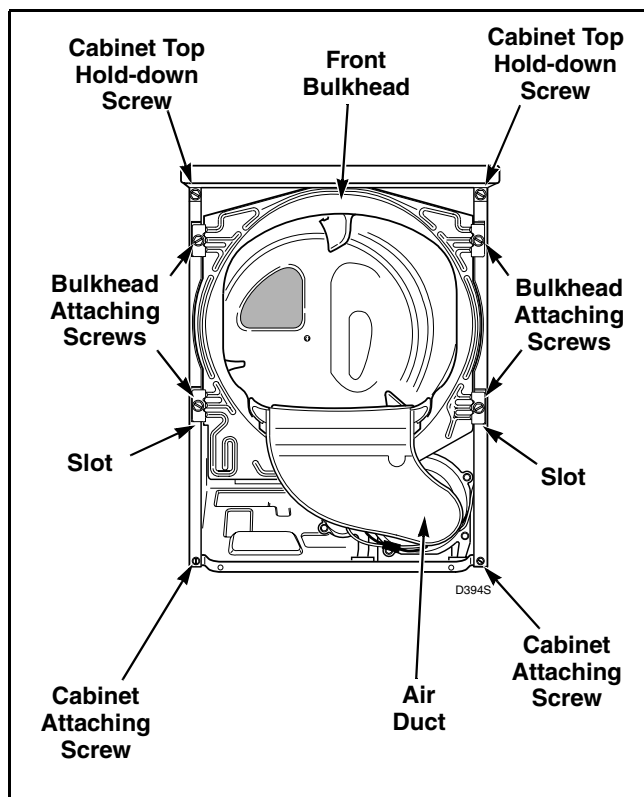

Figure 48
- Remove four screws holding bulkhead to front flange of cabinet and lift complete bulkhead assembly out of slots in cabinet. Refer to *Figure 48*.
- f. Remove four screws holding bulkhead to front flange of cabinet. Then, lift complete bulkhead assembly out of slots in cabinet. Refer to *Figure 48*.
- f. Remove four screws holding bulkhead to front flange of cabinet. Then lift complete bulkhead assembly out of slots in cabinet. Refer to *Figure 48*.
- g. Remove two cabinet top hold-down screws. Refer to *Figure 48*.
- e. Remove two cabinet top hold-down screws. Refer to *Figure 48*.
- h. Remove four screws holding bulkhead to front flange of cabinet. Then, lift complete bulkhead assembly out of slots in cabinet. Refer to *Figure 48*.